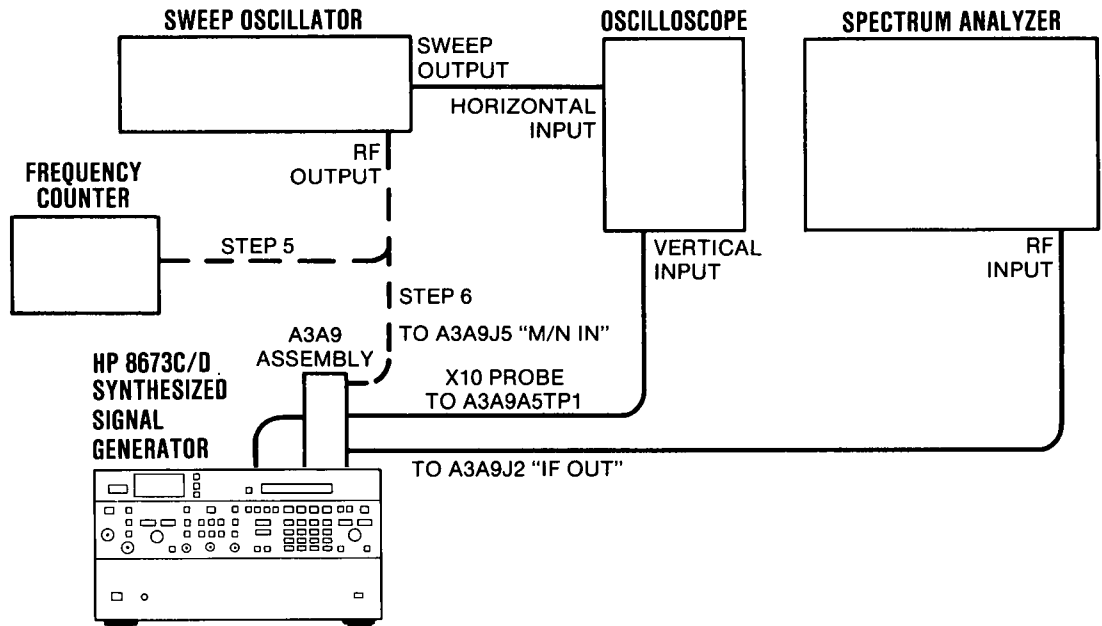

Figure 5-10. YTO Loop Sampler Adjustment Test Setup
6. Connect the equipment as shown in Figure 5-10. Connect the Signal Generator's mains power cord and set the LINE switch to ON.